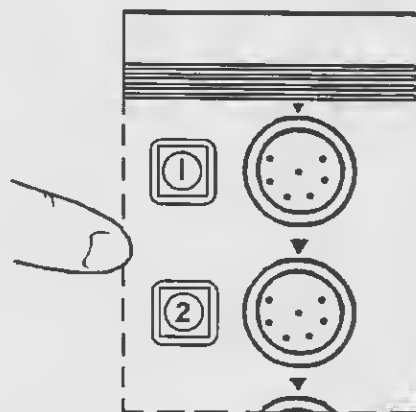

Figure 2-13. Handpiece selection.
d. Depress either the handpiece 1 or the handpiece 2 selector switch, if illuminated. (Refer to fig 2-13.)